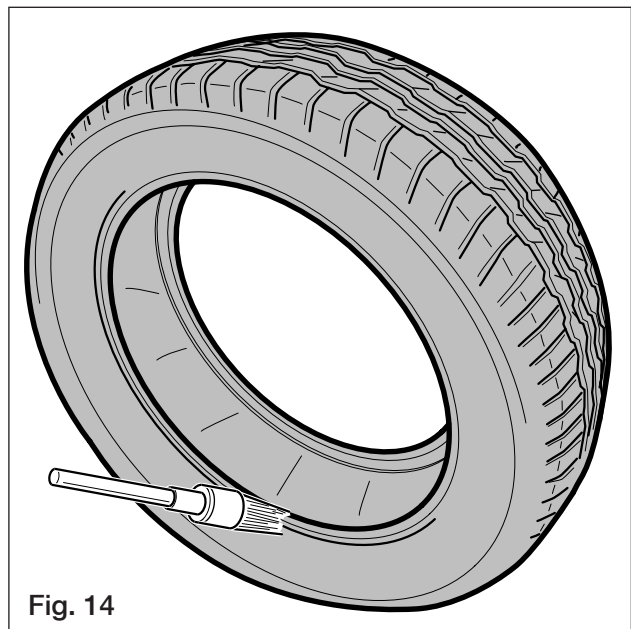

Fig. 14
- Apply a liberal amount of tire manufacturer approved rubber lubricant to both beads before attempting the mounting operation (Fig.14). Lubricated beads require much less force to mount/seat and are protected against torsional damage. Inspect the entire wheel and tire for any damage that may affect mounting or inflation.